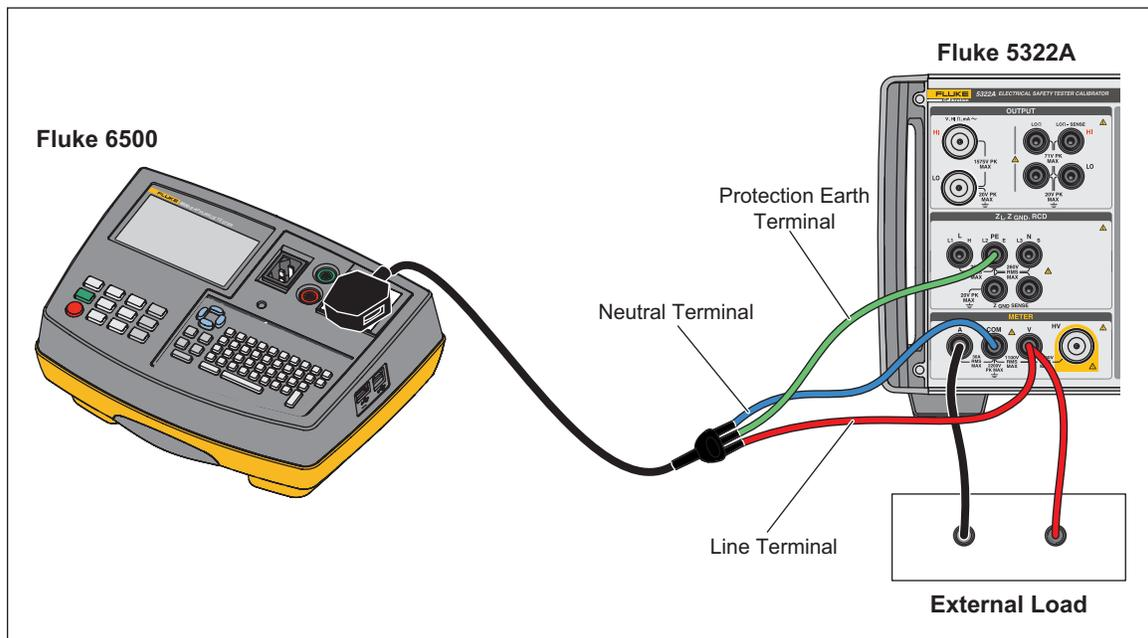
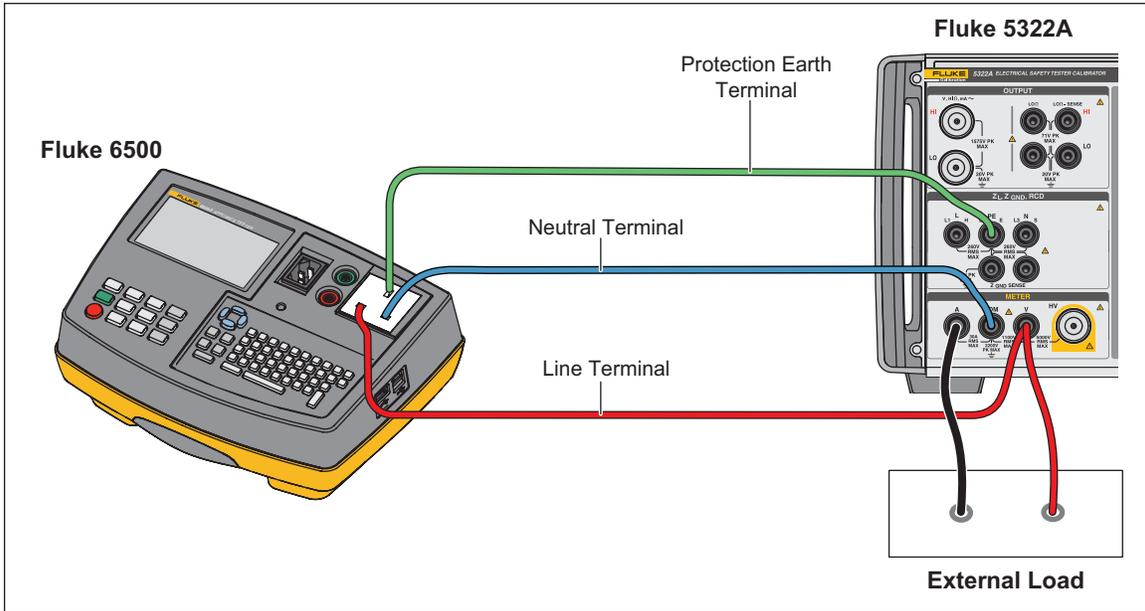

Figure 55. Voltage and Current Meter Calibration with a Cable Adapter
Figure 56. Voltage and Current Meter Calibration with Single Wires
2. Connect the DUT to the Product's Meter A, COM and V terminals as in Figure 55 and Figure 56. Also, make a protected earth (ground) connection between the DUT and the Product's PE terminal.